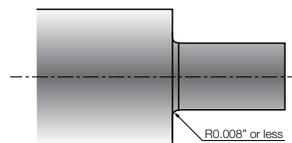

Fig.1 Example of a specified corner-R in the drawing
- If a minus tolerance is specified for the corner-R (RE) as shown in the Fig.1, using an insert with corner-R (RE) = 0.008" may result in larger radius than specified.
- Use an insert the corner of which R (RE) has a minus tolerance.